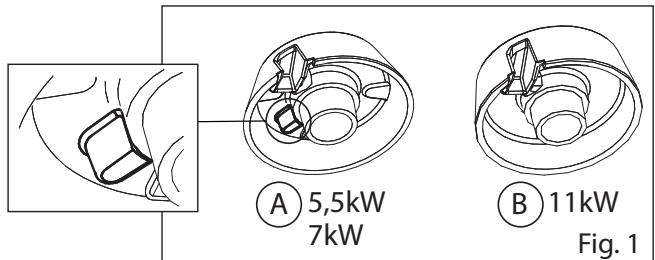

Fig. 1
2. Remove the grilles, burner caps and burners (Fig. 1/A burner 5.5 / 7 kW - Fig. 1/B burner 11 kW)
1. Remove the panel and knobs (Fig. 1/A)
2. **Stove:** remove the grills and burner-caps (Fig. 1/B)
- Solid top 980:** remove the central disc with the appropriate manoeuvring tool and the side plates (Fig. 1/C).
- Oven: open the door (Fig. 1/D).